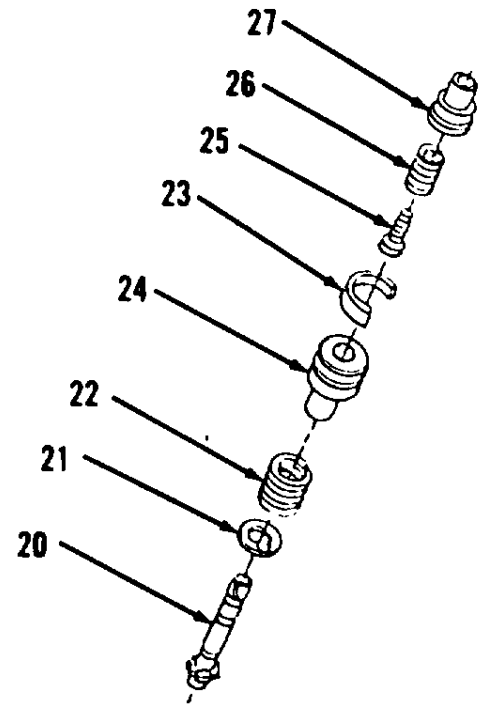

Figure 3-89.
7. Remove plunger assembly (20) out of spring (22) and barrel (24, Figure 3-89).
8. Remove spring seat (21) from plunger assembly (20).